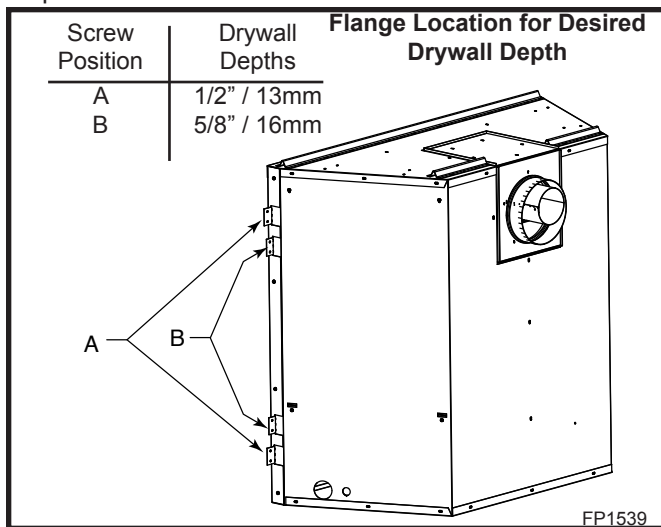

Fig. 5 Drywall flange location.
2. This unit comes with four (4) flanges pre-mounted on both sides of the fireplace to allow two different drywall thicknesses to be used. Flange "A" is for 1/2" drywall while flange "B" is for 5/8" drywall. (Fig. 5)